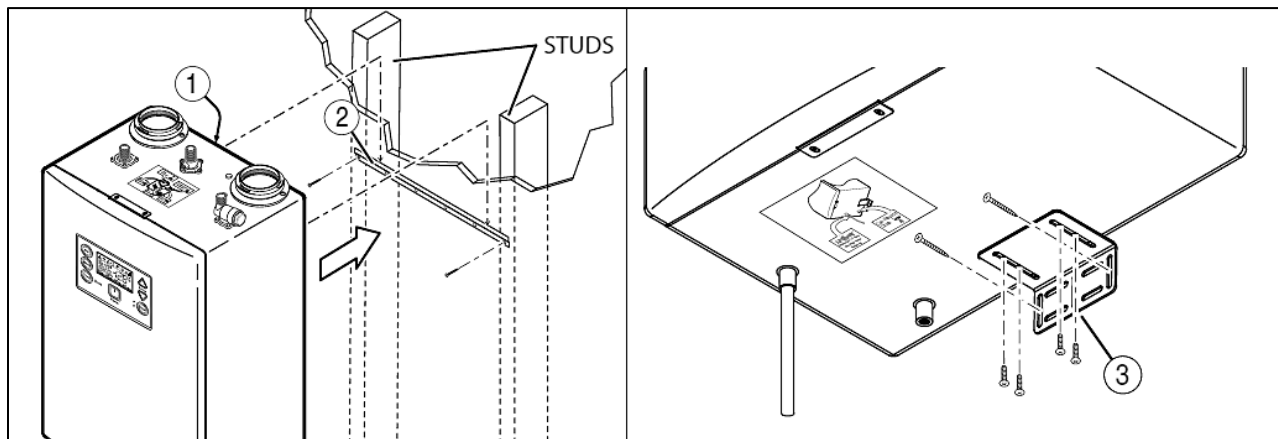

Figure 6 – Mounting to Studs
1. Place the upper mounting bracket on the wall and ensure that it is level. See Figure 6. Use two appropriately sized wood screws to mount the bracket securely to the studs. Ensure that the bracket is affixed securely and can support the weight of the water heater.
2. With assistance, hang the water heater on the upper wall bracket, interlocking the bracket on the back of the water heater (1) and the wall bracket (2). See Figure 6.
3. Install two appropriately sized wood screws in the lower bracket (3) to secure the water heater to the wall. See Figure 6.
4. Make sure the water heater is plumb and level, and tighten the four sheet metal screws on the bottom bracket (3). When properly installed, there should be a 5/8" air space between the back of the water heater and the wall. See Figure 6.